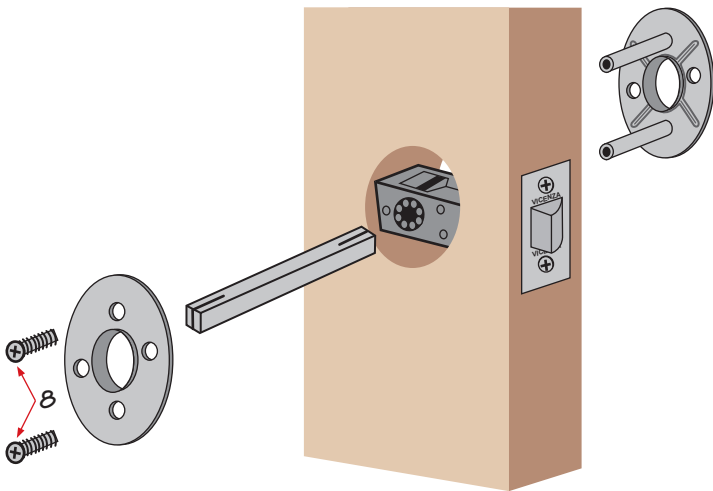

FIGURE 3
4. Slide the mounting brackets on the spindle and fasten with 2 machine screws. Once the mounting bracket is secure, remove the self-alignment plugs and discard. (Figures 3, 4)